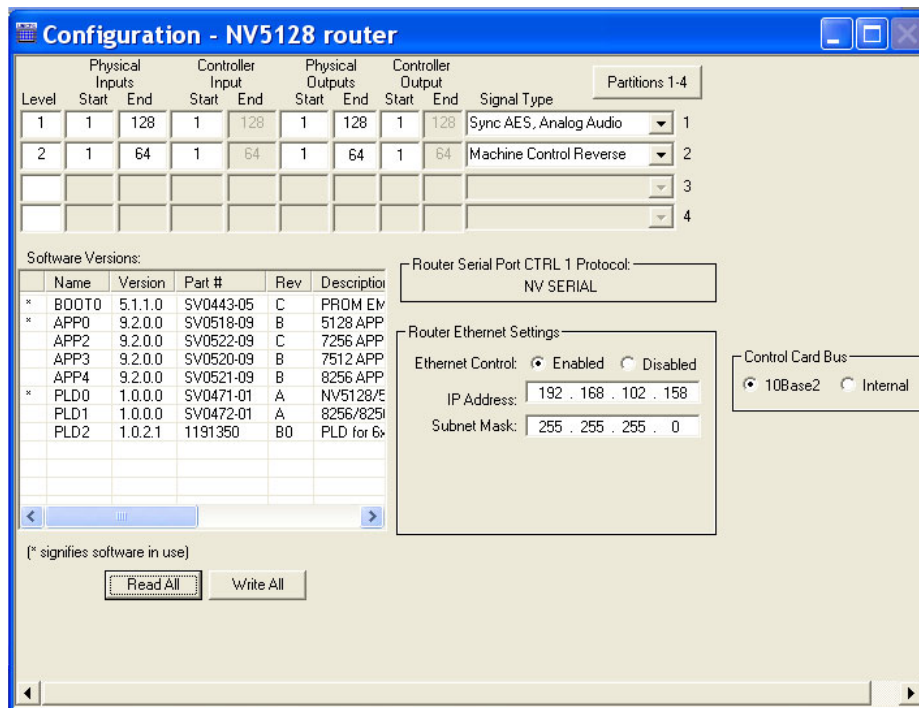

Figure 6-4. Configuration Window
- 8 Again from the menu bar, select ‘Window > Configuration’. The ‘Configuration’ window appears, as shown in Figure 6-4. Using this window, enter Ethernet connection settings (i.e., IP address and subnet) to enable communication with the router through a network.